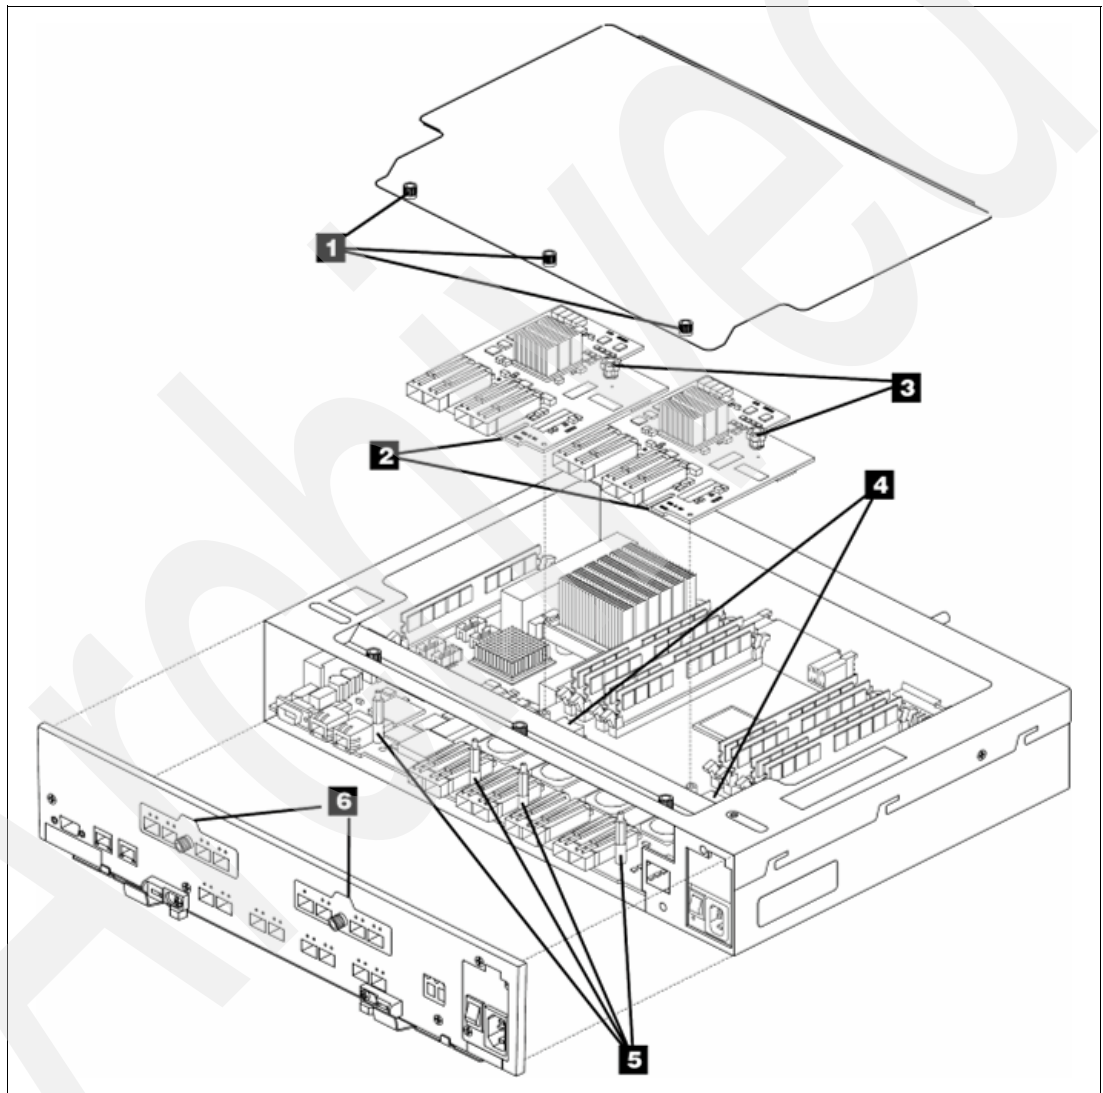

Figure 3-28 Controller exposed
The DS5000 storage subsystem integrates the host-side and drive-side connections into the controller itself. DS4000 models use built-in host ports while DS5000 models use flexible Host Interface Cards that can be replaced by IBM service personnel only. Each DS5000 controller holds up to two Host Interface Cards (HICs) (see Figure 3-28).
The HICs noted as (2) are shown in Figure 3-28. Thumb screws (3) support easy replacement. Different faceplates (6) are used to describe the LED status of the host port LEDs. The faceplates are described in Figure 3-22 on page 48, Figure 3-23 on page 48, and Figure 3-24 on page 49.